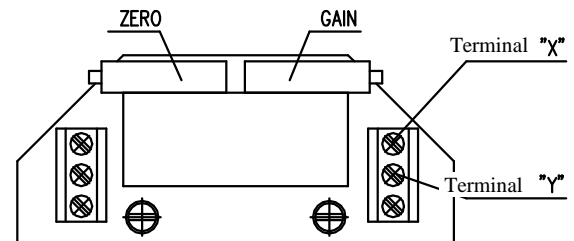

Fig. 8
#### 4.4.2 EPV – 3-wire version (Fig. 8,8a)
- Adjust the resistive transmitter according to the previous chapter. The resistance is to be metered on the terminals X-Y (Fig. 8,8a). The used transmitter resistance is 2000Ω or 100 Ω.